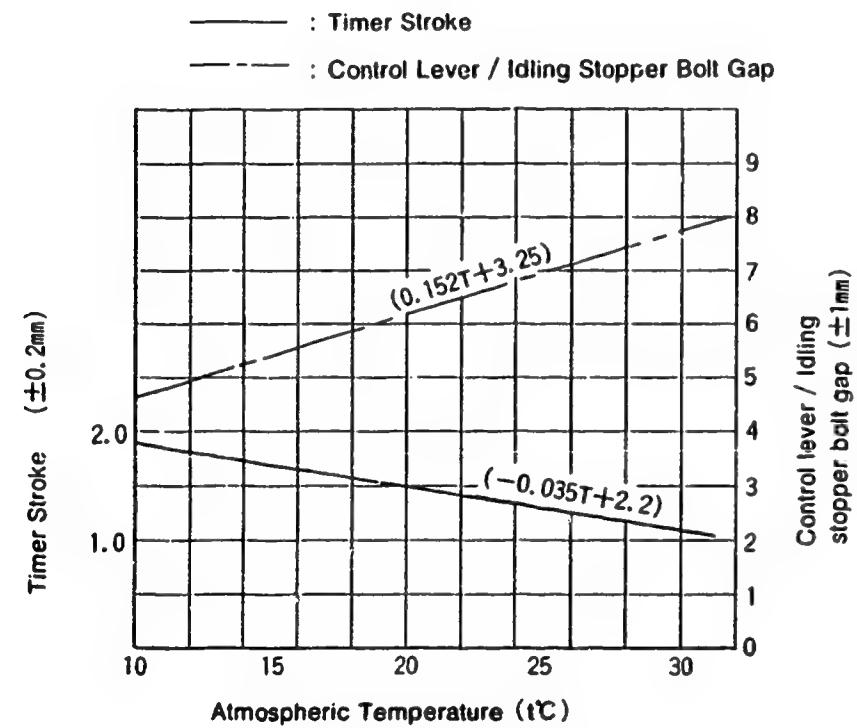

Fig. 2
① Using the graph (Fig 2), determine the Timer Stroke according to the atmospheric temperature at the time of adjustment.
② Adjust using the Timer Stroke adjusting bolt so that the Timer Stroke corresponds to the value determined in note ① above.
- ① Insert a block gauge of 5.3 \pm 0.05 mm thickness in the gap between the control lever and the idling stopper bolt.
- ② From Fig 2 determine the dimension of the gap between the idling lever pin and the control lever according to the atmospheric temperature at the time of adjustment.
- ③ Adjust using the fast idle adjusting screw so that the gap corresponds to the value determined in note 2) ② above.